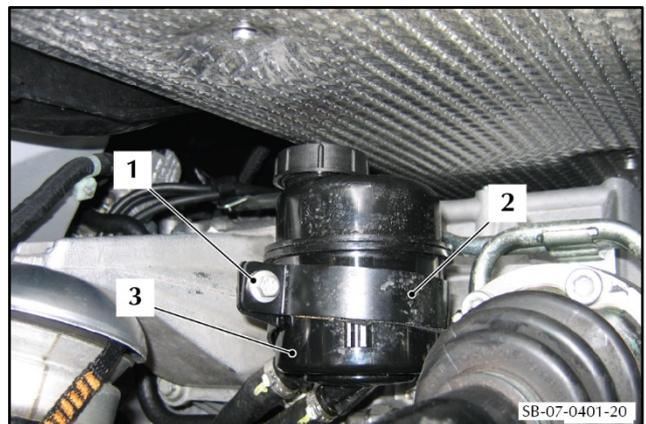

Figure 53
- 105.** Put the reservoir (3) in position (refer to Figure 53).
- 106.** Put the clamp (2) in position to hold the reservoir (3).
- 107.** Install the screw (1) to attach the clamp (2) that attaches the fluid reservoir (3).